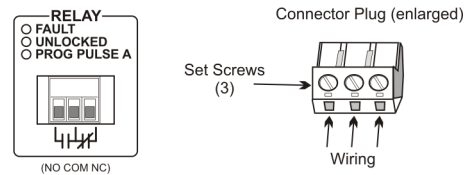

Figure 9.1: Rear Panel Relay Contact location and Connector Plug
When connecting the 1094B multimode relay, do not exceed the ratings and specifications. Figure 9.1 below illustrates the 5-mm spaced terminals on the connector plug for fastening wiring. Normal procedure is to strip the wire by one-fourth inch or more; DO NOT tin with solder prior to attaching to the connector plug. Tighten the set screw clockwise to secure wires.
The information below gives the contact condition for two states: (1) Fault, or Power OFF and, (2) No Fault. Silkscreen in Figure 9.1 indicates a Faulted or Power OFF condition.
- Fault, or Power Off – Left to Center pin open (NO), Center to Right pin shorted (NC).